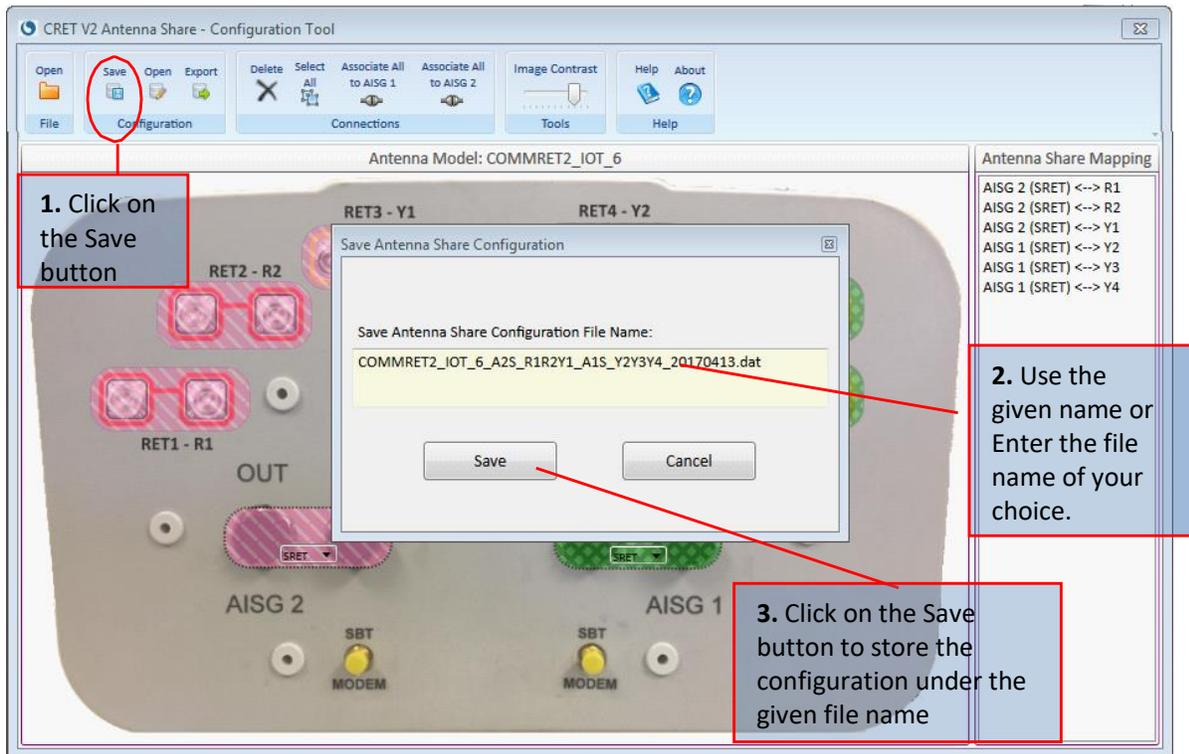

Figure 15-14. Saving Antenna Sharing Configuration to File
3. Click on the “Save” button to store the Antenna configuration to the given file name as shown in Figure 15-14. If the file name does not have extension name, “.dat” is added during the saving.